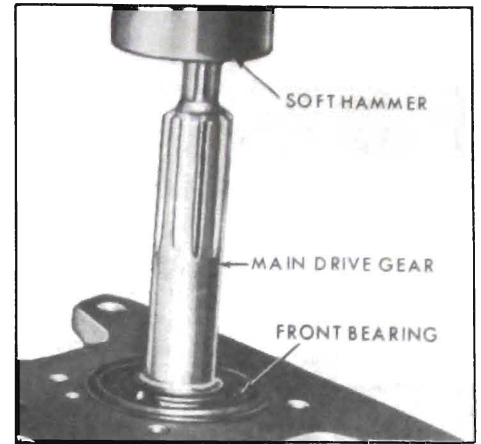

Figure 72-406 - Removing Main Drive Gear
13. With soft hammer, tap main drive gear down from front bearing as shown in Figure 72-406.